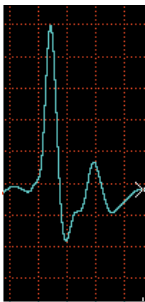

Figure 23a. Selection of a single heart beat
1. From recorded data, select a region corresponding to one heart beat (Figure 23a).